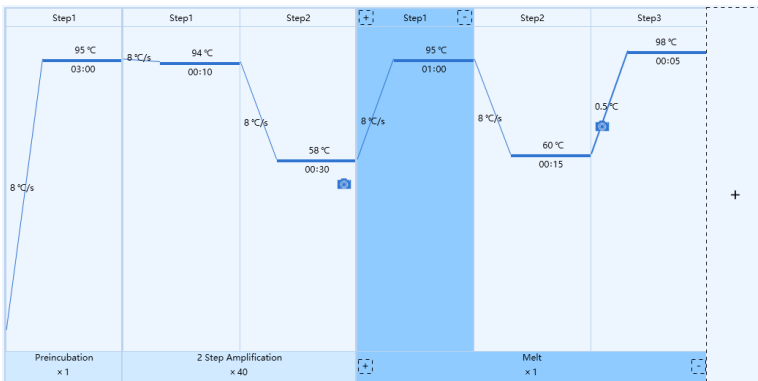

Figure E-6.1 Temperature Program Area – Example Temperature Program
- 1. Temperature Program Area:** Users can view the temperature program of the current experiment, or edit the temperature program stages and steps in this area, as shown in figure E-6.1.